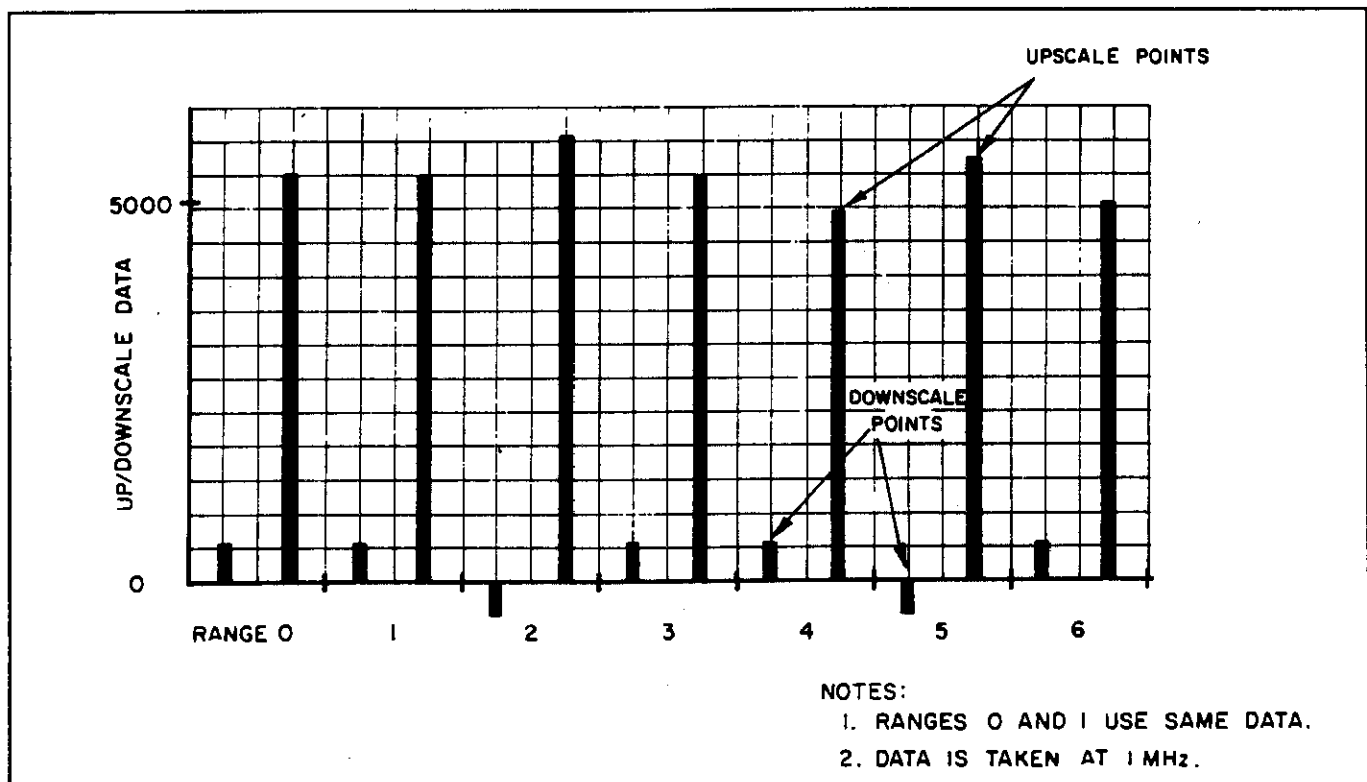

Figure 4-1. 14-Point Sensor Calibration
1. **14-Point Linearity Data.** For the case where the 30 MHz programmable calibrator is not installed, or when millimeter wave sensors are used, the linearity data (also referred to as AC reference frequency linearity data) is supplied with the sensor and is manually entered at time of purchase. Instruments shipped from the factory already have the data installed. Refer to Figure 4-1.